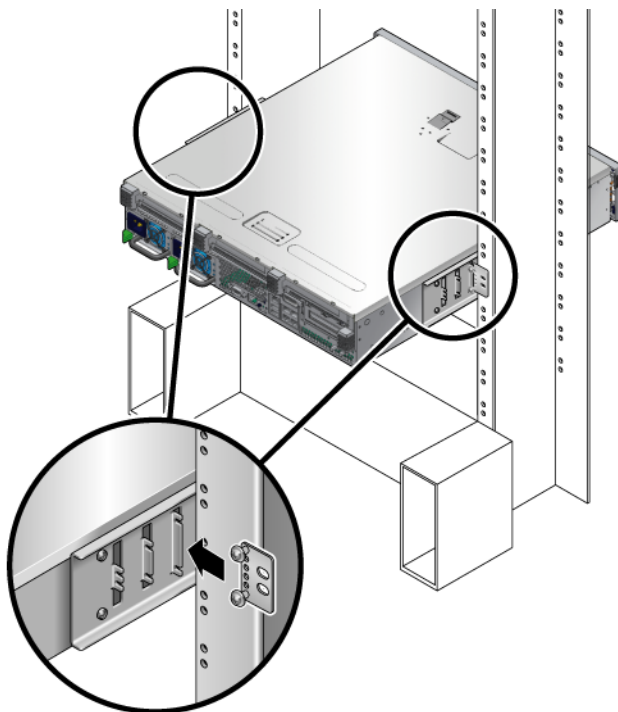

FIGURE 3-12 Mounting the Rear Plate to the Side Bracket
The screw heads should be facing the rear of the server and the far side of the rear plate should be lined up with the rack post (FIGURE 3-12).
- c. Tighten the screws to secure the rear plate to the set of eyelets on the side bracket (FIGURE 3-12).